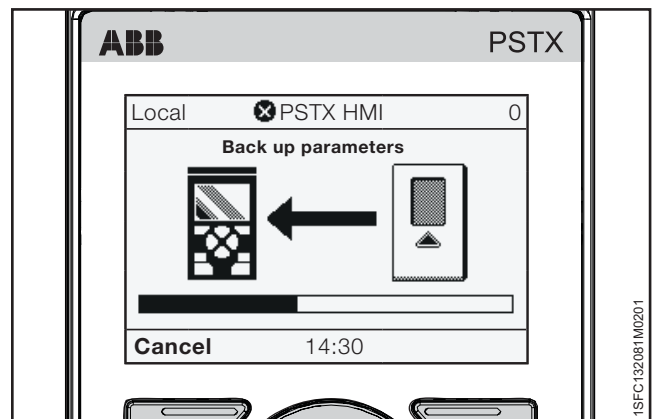

Figure 6.31
3. The download of parameters shows as in Figure 6.31. The name of the backup file shows as the day, month and year it was created.